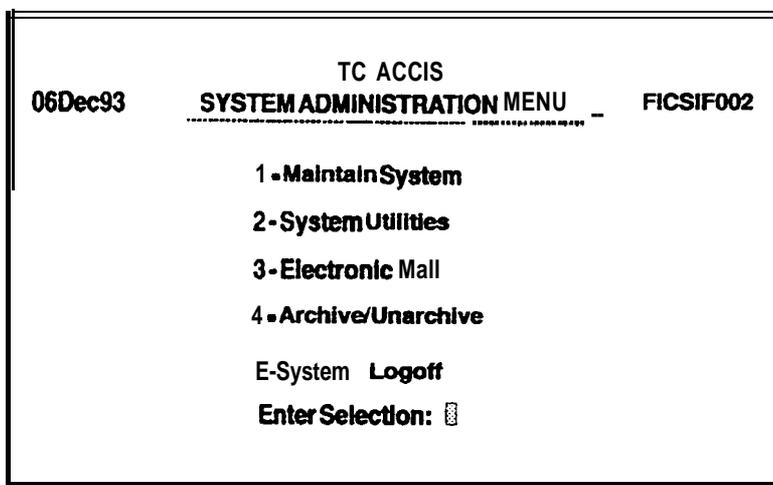

Figure 10-I. System Administration Menu
2. From the System Administration menu (see figure 10-I) **select option 4 - Archive/Unarchive** and press **RETURN**.
3. From the **Archive/Unarchive** menu (see Figure 10-Z) **select 1-Archive** and press **RETURN**. The Select TDC Screen displays.